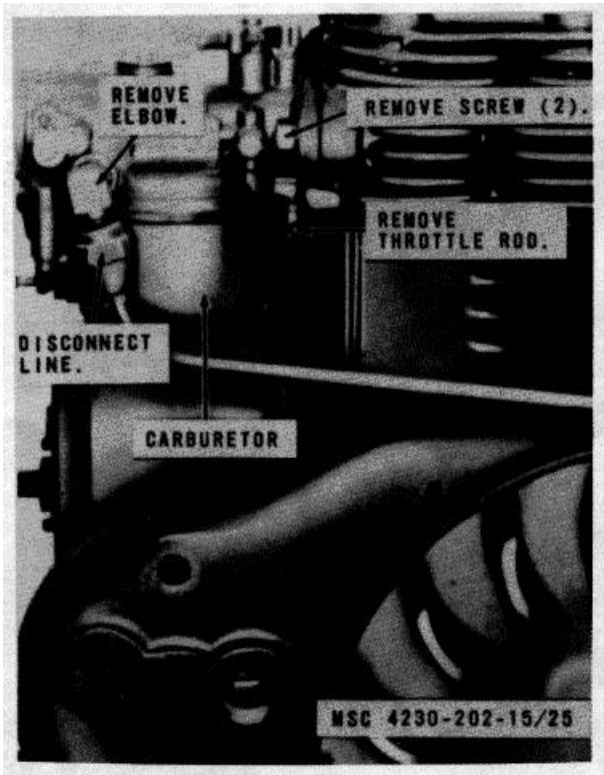

Figure 3-18. Carburetor, removal and installation
- (1) Remove the air cleaner and bracket support (para.3-40).
- (2) Refer to figure 3-18 and remove the carburetor.
- (1) Refer to figure 3-18 and install the carburetor.
- (2) Install the air cleaner and bracket support (para.3-40).
c. Adjustment. Refer to figure 3-18 and adjust the carburetor.